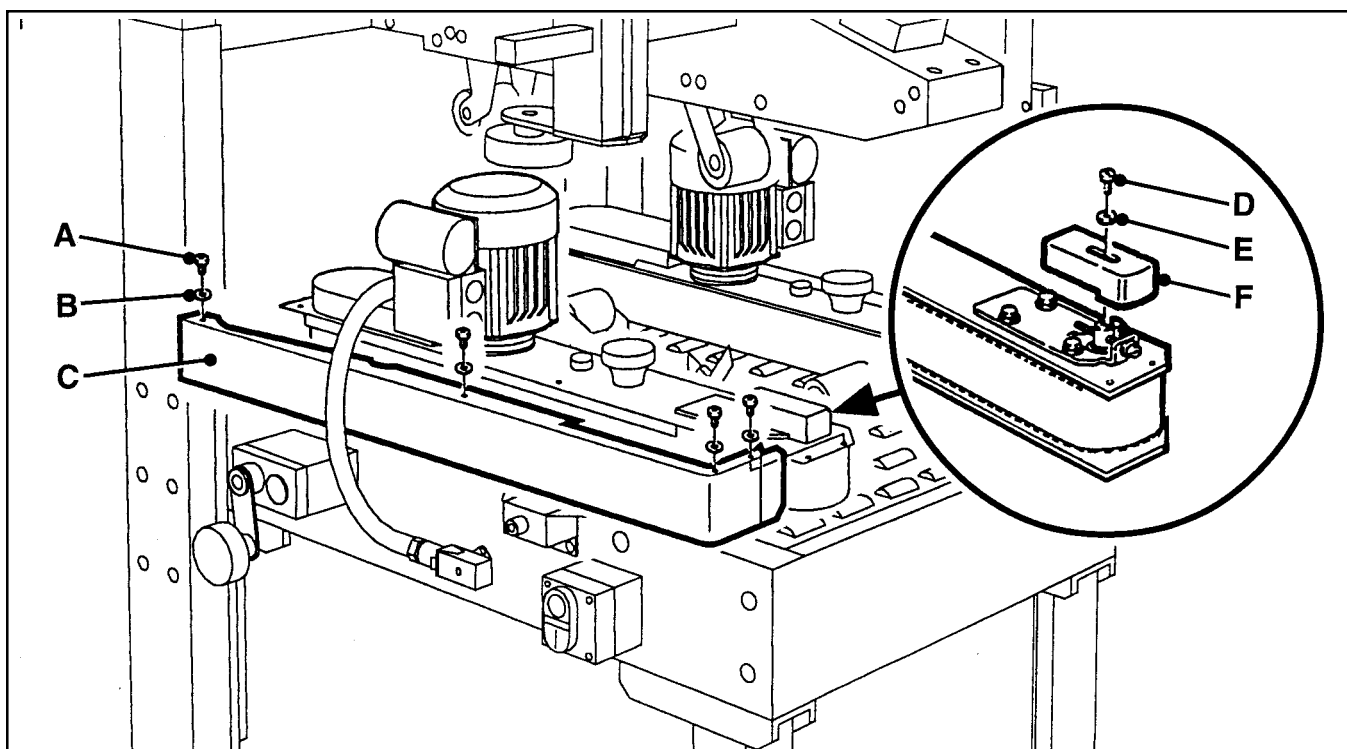
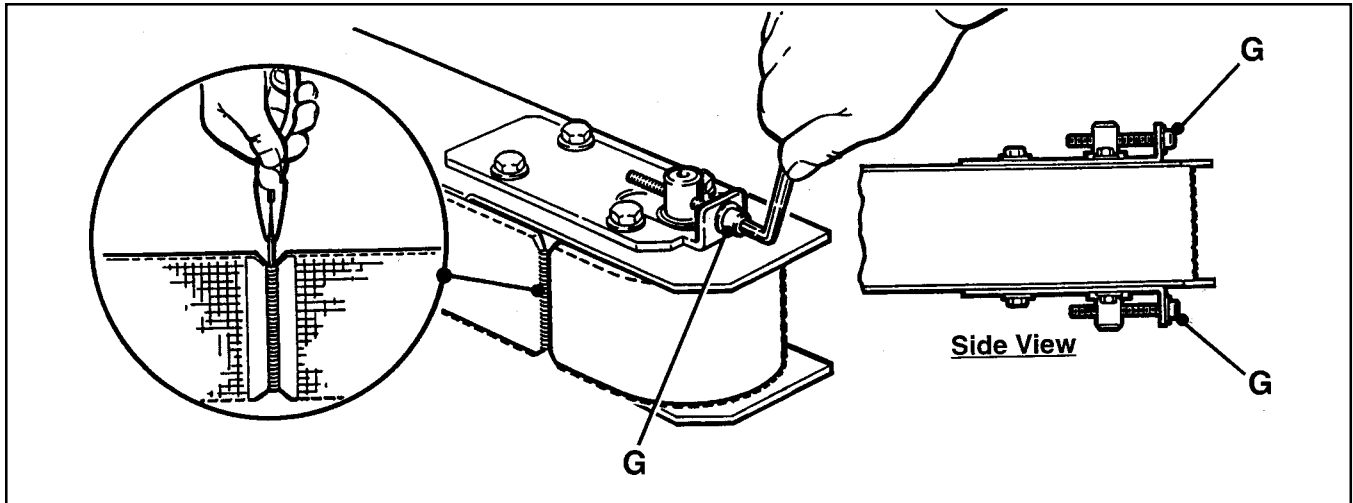

Figure 4-2 – Box Drive Belt (Left Side View – Infeed End)
Figure 4-3 – Drive Assembly – Infeed End
2. Remove and retain the four screws (A), four washers (B) and side cover (C). See Figure 4-2.
3. Remove and retain the screw (D), washer (E) and belt tensioner cover (F).
4. Turn belt adjustment screws (G) counterclockwise on both the upper and lower tension assemblies until belt is loose, See Figure 4-3.
7. To set drive belt tension – turn adjustment screws (G) equally on both the upper and lower tension assemblies. Turn the screws clockwise to increase tension or counterclockwise to decrease tension. See Figure 4-3.